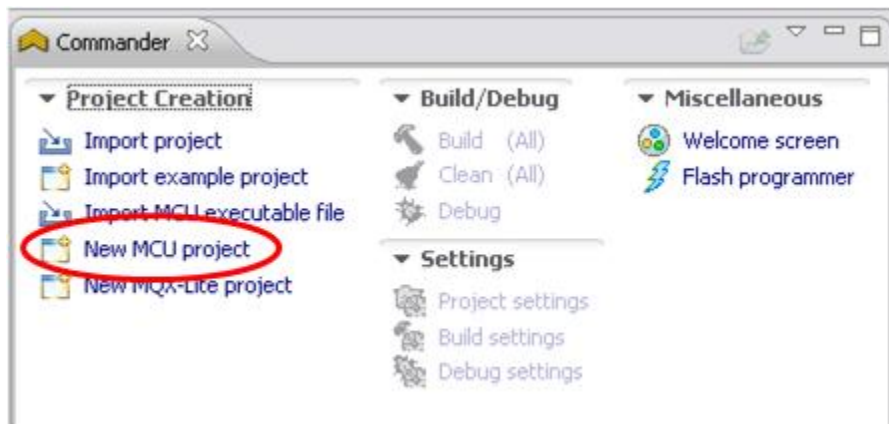

Figure 9. Commander window
1. The Commander window includes an option to create a new project for the MCU. See Figure 9.